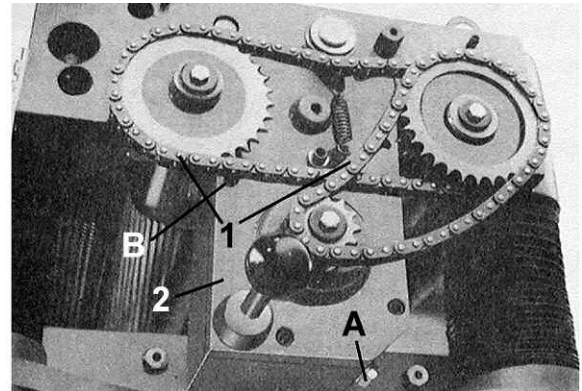

FIGURE 30
1. Remove the drain plug (A) Fig.30 and filter cap (B), drain dirty oil thoroughly.
2. Tighten the drain plug (A).
3. Fill with clean lubricant through hole (B).
4. Tighten the filler cap (B).